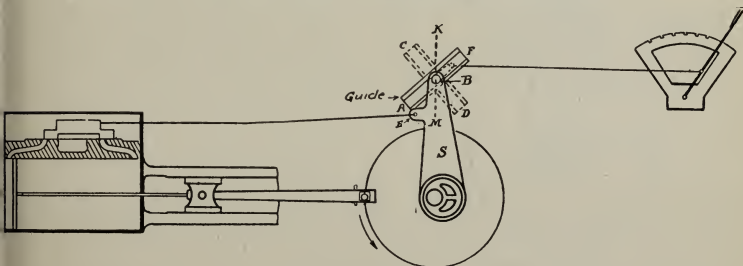
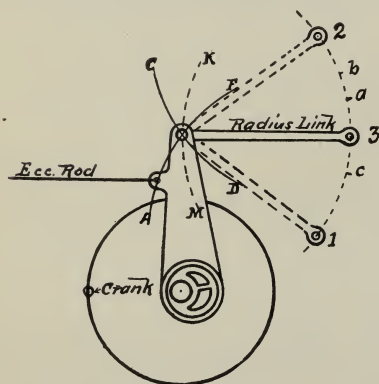

FIGURE 41.
FIGURE 42.
A diagram showing the principles of this gear appears in Figure 41. The eccentric is set just opposite to the crank, and the valve rod is attached to the strap  $S$ , at  $E$ . The upper end of the strap is provided with a guide block or roller which moves along an inclined guide. This guide may be tilted, either in the direction of  $AF$  or  $CD$ . When in the position  $AF$  the engine must run in the direction of the arrow. When the guide is tilted in the direction  $CD$  the engine is reversed. When the engine is on dead center the valve shows a certain amount of lead. The center of the guide block  $B$  is opposite the pivot on which the guide turns, so that moving the reverse lever does not move the valve. Referring to the figure it will be seen that if the crank is rotated in the direction of the arrow the block  $B$  will move upward along the guide  $AF$ , and toward the right, thus
Practically the same direction could be given to the strap *S*, if it were connected up with a radius link as shown in Figure 42, instead of with a block and guide. If the link be pivoted at 1, the end of the strap must move along the line *AF*, and if pivoted at 2, along the line *CD*. These two arcs, it will be noted, correspond to the directions of the guide in Figure 32. When pivoted at 3 the arc *KM* will correspond in general direction to the vertical position *KM*, of the guide in Figure 41. This is the direction the end of the strap will take when the reverse lever is in the center notch in either case. When the point
*B* moves along the line *KM* the valve will have practically no movement. If an engine with a gear of this kind has the reverse lever placed in the center notch it may keep on running, if it is not loaded. It will not get steam enough to do any work, however, if the valve is set right. If the guide in Figure 41 is tilted a slight amount from the position *KM*, the valve will be given only a little movement and cut-off will occur early. Or, if the point *P* in Figure 42 be made to occupy positions